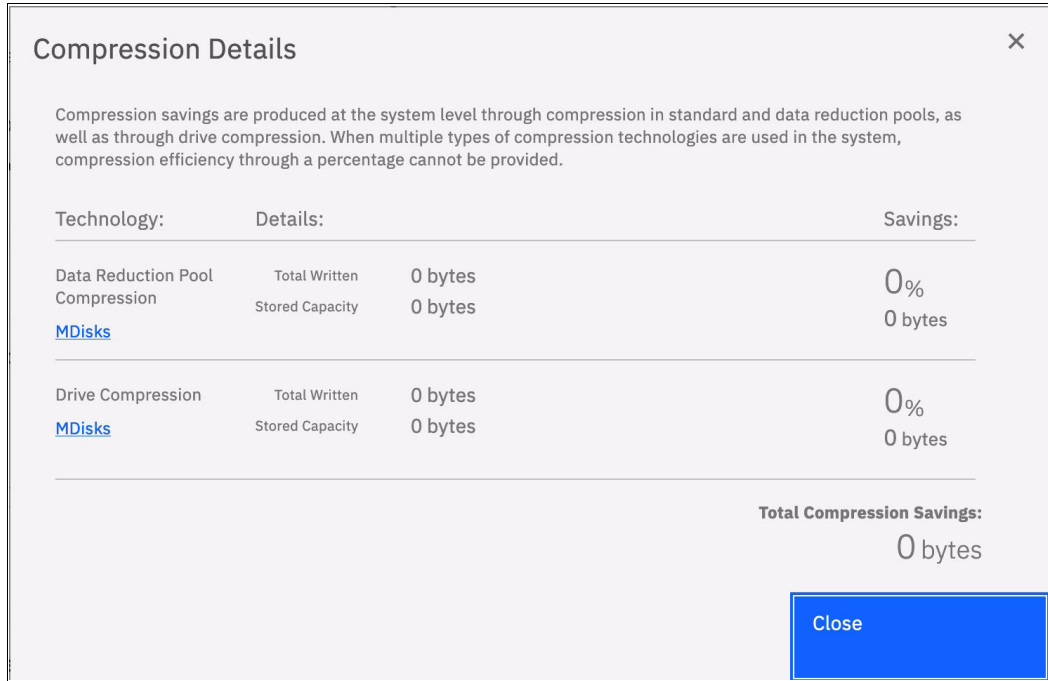

Figure 4-6 Compression savings dashboard report
- ▶ As the savings from DRP (compression and deduplication) that is provided at the DRP level, as shown in Figure 4-6 on page 268.